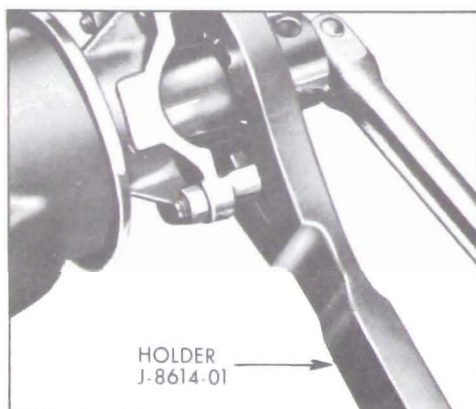

Fig. 6-27—Installing Pinion Nut
5. Install pinion washer and nut. Hold companion flange with Holder J-8614-01. While intermittently rotating pinion to seat bearings, tighten pinion nut until end play begins to be taken up. See Figure 6-27.